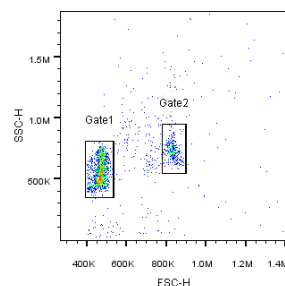

Figure 1
- 2) Run setup beads. Adjust FSC and SSC gates to ensure the bead populations are on scale. Create gate for two different size bead populations (Figure 1).